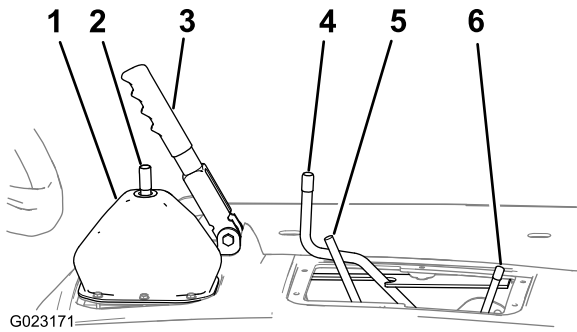

Figure 11
1. Ensure that the parking brake is set (Figure 11).
2. Move the rod for the differential lock forward and to the right to lock it in the engaged position (Figure 11).